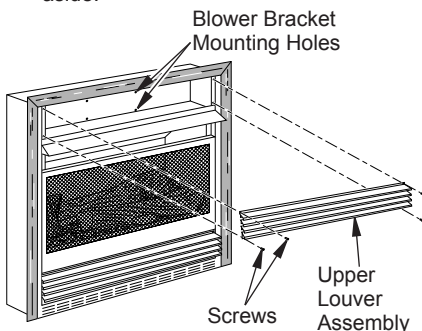

Figure 12 - Removing Upper Louver Assembly
Built-in installation of this fireplace involves installing fireplace into a framed-in enclosure. This makes the front of fireplace flush with wall. An optional brass trim kit accessory is available (see Accessories, page 27). Brass trim will extend past sides of fireplace approximately 1/2". This will cover the rough edges of the wall opening. If installing a built-in mantel above the fireplace, you must follow the clearances shown in Figure 12, page 12. Follow the instructions below to install the fireplace in this manner. *Note: Your fireplace is designed to be used in zero clearance installations. Wall or framing material can be placed directly against any exterior surface on the rear, sides or top of your fireplace.*
2. Remove 4 screws from louver assembly (see Figure 12). Save these screws.
9. Install switch plate on valve cover shield with 2 #10 screws provided (see Figure 15). Reinstall valve cover shield. Route power cord out of cabinet by inserting it through the bushing on the outer casing (see Figure 14). Plug fan kit into 120-Volt grounded power supply and test operation. *Note: When switch is in the AUTO position, the fan will start after heater has run for a few moments. The fan will continue to run for several moments after heater has been turned off. When switch is in the ON position, the fan will run until turned to OFF. Reinstall upper louver assembly and hood if previously removed, (see Figure 12, page 12). Close lower louver door.*